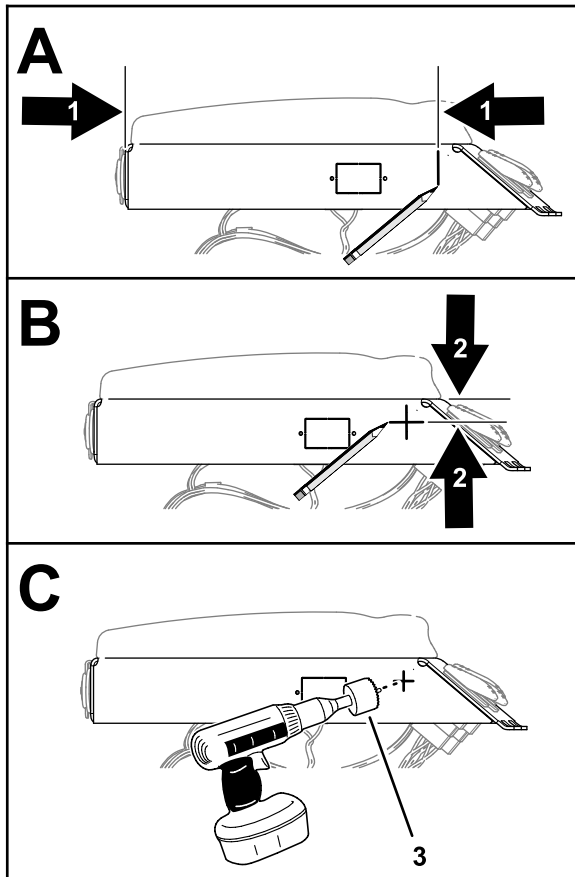

Figure 104
1. Measure 260 mm (10-1/4 inches) from the back end of the arm panel, and mark the panel (Figure 104).
2. Measure 35 mm (1-3/8 inches) from the top of the arm panel, and mark the panel (Figure 104).
5. Drill a 17 mm (11/16 inch) hole in the arm panel at the centerpunch mark (Figure 104).